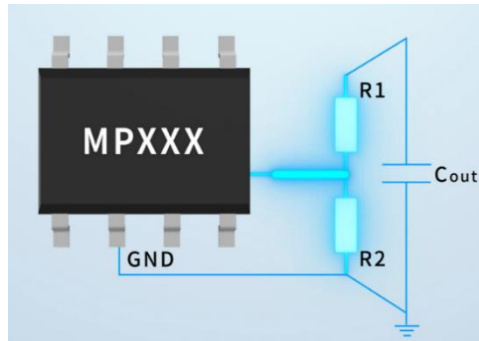

Figure 1: Various Magnitude Combinations for FB Upper and Lower Divider Resistances
The specifications of the feedback (FB) voltage resistor divider in DC-DC converters often poses various design challenges, such as determining the required resistance or adjusting parameters (e.g. output voltage, upper divider resistance or lower divider resistance). Figure 1 shows the various magnitude combinations for the FB upper and lower divider resistances.